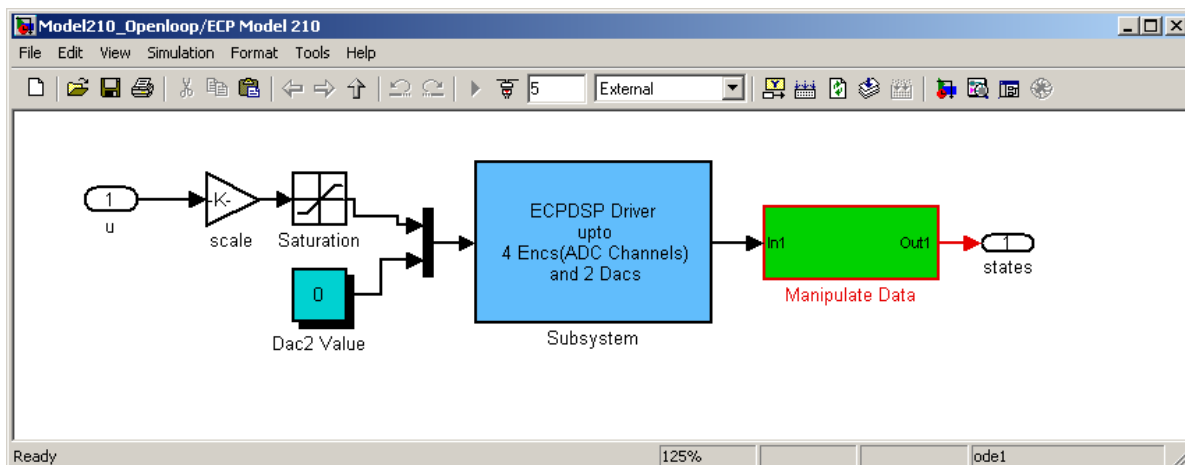

Figure 7: Model210\_Openloop/ECP model 210
- You should also verify that the **Base I/O Address** for this system is set correctly for the Dell computers. You can do this by double clicking on the yellow block and the window in Figure 7 will open up. Double click on the blue ECPDSP Driver block to confirm that the Base I/O Address is correct. Click Apply->OK and then close the windows that were opened and save the **Model210\_Openloop.mdl** file.